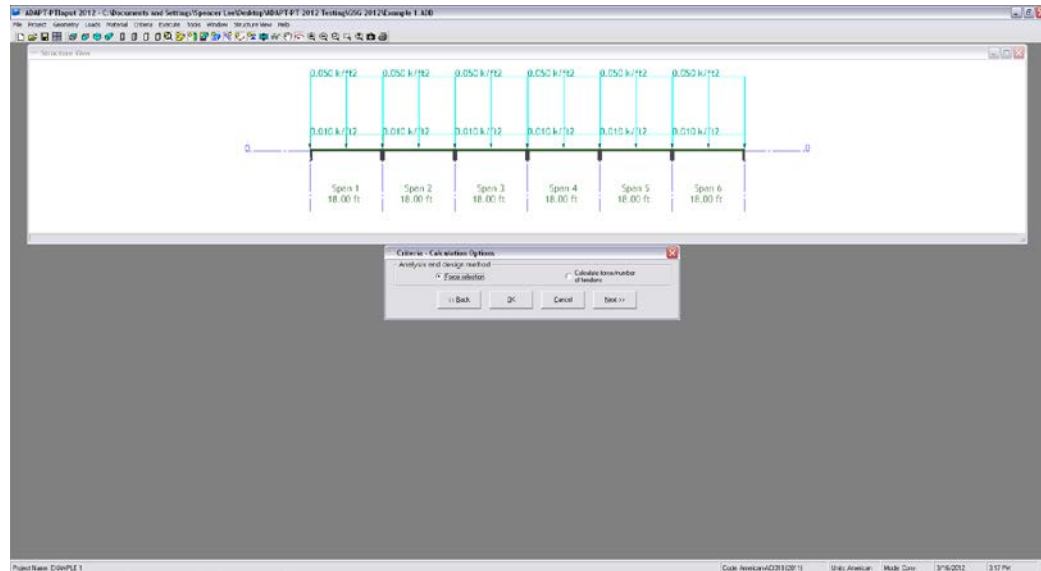

FIGURE 2.1-16
2.1.5.3 Select The Post-Tensioning Design Option (Fig. 2.1-16)
The two design options are “Force selection” and “Force/Tendon Selection” as shown in **Figure 2.1-16**. “Force Selection” is the default option.